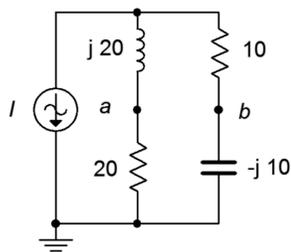

Figure 5.49
85. Find the Thévenin equivalent looking into nodes  $a$  and  $b$  for the circuit of Figure 5.49.  $I = 4\angle 0^\circ$ .